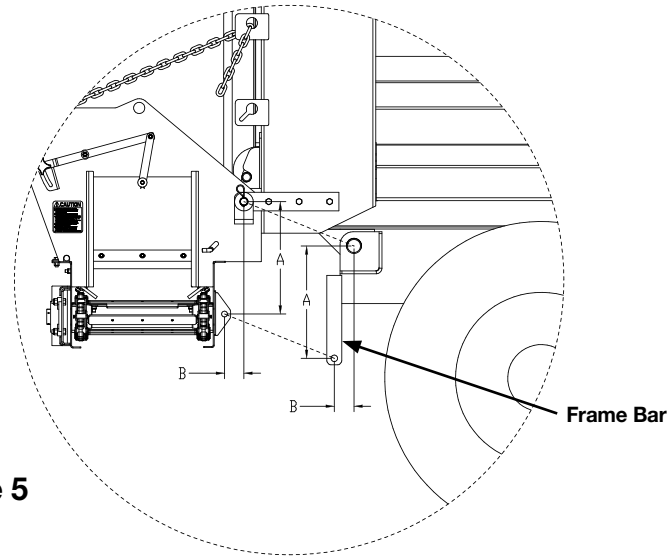

Figure 5
4. Locate and weld frame Bars to the outside of each truck frame rail. For proper operation the hinge point of the frame bar must be located to match the vertical distance (dimension A) and the horizontal distance (dimension B) on the spreader (see Figure 5). The standard dimensions of the parallel linkage mounting tabs are shown in Figure 6. If unable to install the frame bars to match the standard dimensions in Figure 6 due to obstructions on the truck frame then the following modifications will need to be made: 1) Locate the hinge point of the frame bars as close as possible to the standard dimensions in Figure 6. 2) Modify the parallel linkage mounting tabs on the spreader (relocate or add new tabs) to match dimensions A & B on the truck frame rails (see Figure 7). Note: the holes in both frame bars must align with each other.